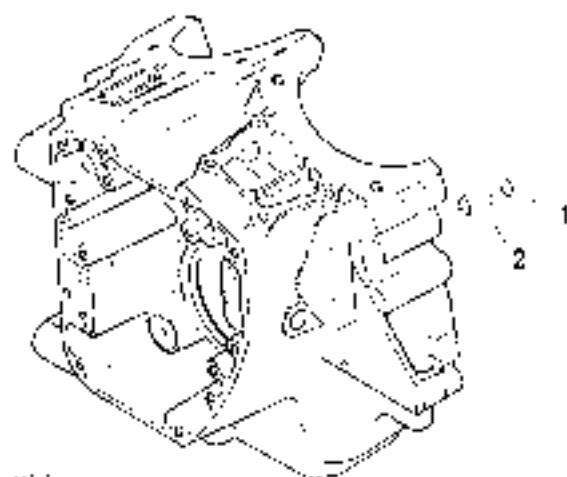

Figure 3-60. Right Crankcase Forward Dowel Pin (Rear Dowel Pin Not Shown)
5. See Figure 3-60. Remove O-rings (1) from two dowel pins (2) in split end face of right case half. Discard O-rings.